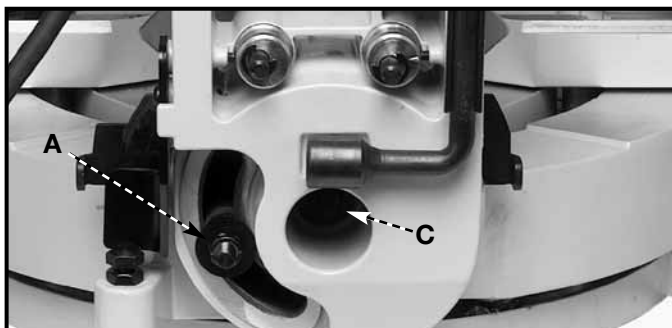

Fig. 33
The bevel-locking force has been set at the factory. After a period of time, you may need to adjust the locking mechanism. To adjust, place the bevel-locking handle (A) Fig. 28 in the “UP” position and tighten the nut (A) Fig. 33.
After a period of time, it may become necessary to adjust the sliding fit between the trunnion and the bevel bracket by tightening the adjusting nut (C) Fig. 33 at the rear of the tool.